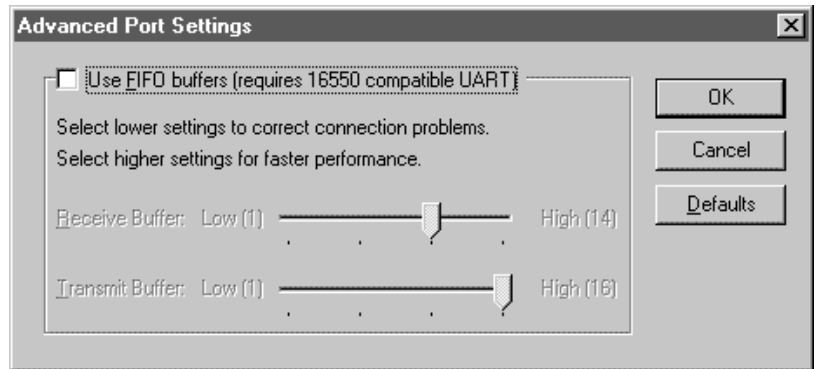

Figure 9-2: Advanced Port Settings Dialog Box
12. This should bring up the dialog shown in Figure 9-2